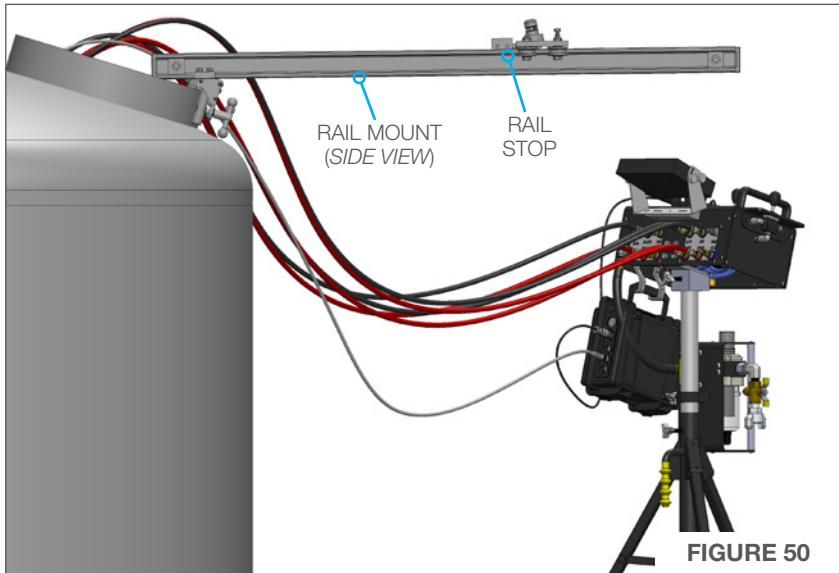

FIGURE 50
3. Make sure the Rail Mount is close to level to the floor. (**Figure 50**)